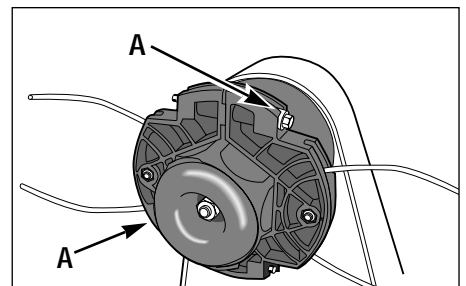

Figure 4-1
2. Use a 1/2" wrench to loosen the two bolts (not the nuts) located on opposite sides of the trimmer head (A, Figure 4-1).